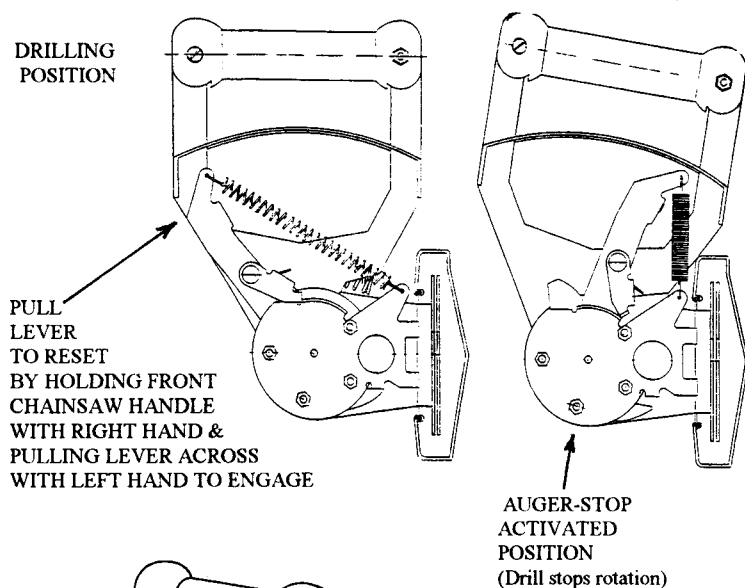

Fig. 17
loose. See Fig. 17.
2. Turn spring adjusting screw anticlockwise (counterclockwise) until loose (minimum pressure). Fig. 17.